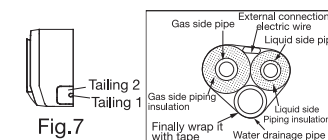

Fig.7
- When routing the piping and wiring from the left or right side of indoor unit, it is necessary to cut off the tailings from the chassis (Shown in Fig.7)